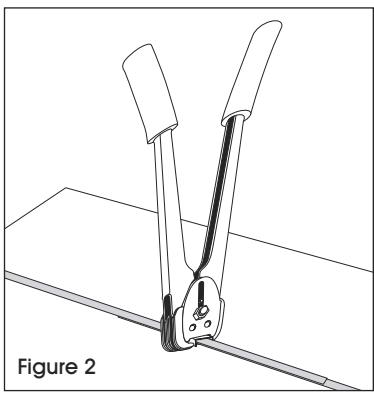

Figure 2
- Press the handles of the sealer together while keeping the sealer in a vertical position. The seal will be completely sealed when the handles are vertical and can be squeezed no further. (See Figure 2)
position verticale et qu'il n'est plus possible de les serrez davantage. (Voir Figure 2)